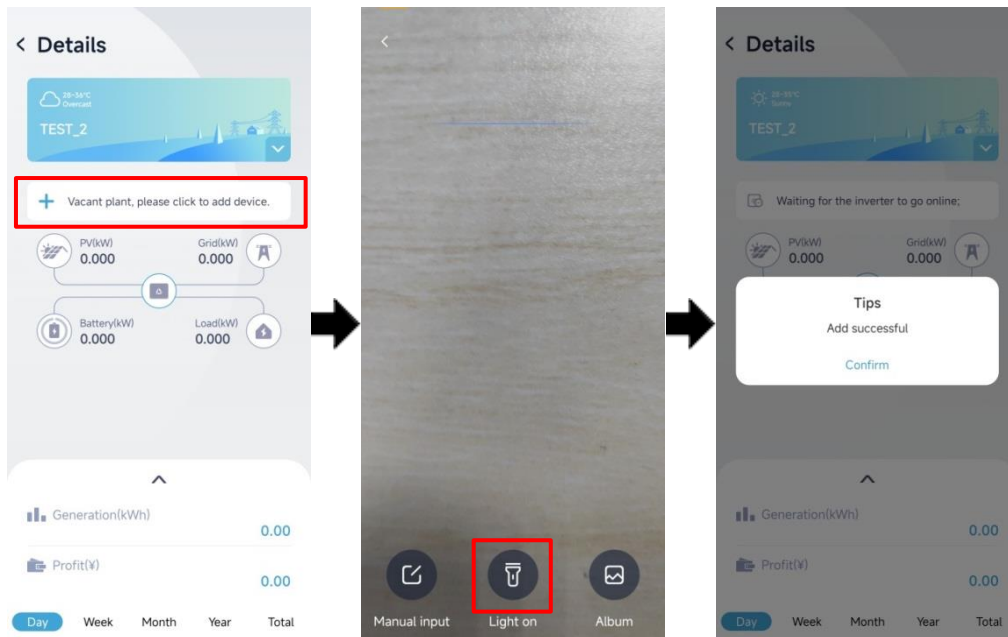

Figure4-7 Add new device
Step 9 Select + **Vacant plant, please tap to add device** to scan the QR code of the collector, the device will be added to the built plant, as shown in Figure4-7.